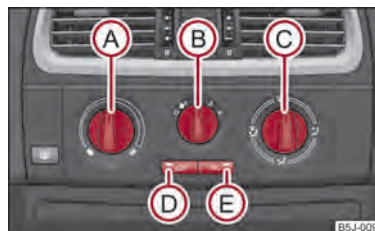

Fig. 79 The air conditioning system: Control elements
The air conditioning system operates when switch  ⇒ fig. 79  is pressed and the following conditions are met:
- Turn the control dial  ⇒ fig. 79 to the right in order to increase the temperature.
- Press the button   ⇒ fig. 79. The warning light lights up in the button.
- Controls Ⓐ, Ⓑ, Ⓒ and the buttons Ⓓ and Ⓔ ⇒ fig. 79.
- Press the button Ⓢ Ⓓ ⇒ fig. 79, the warning light lights up in the button.
The recirculated air mode is switched off automatically if the air distribution control (C) is in position (M) ⇒ fig. 79. You can also switch recirculated air mode on again from this setting by repeatedly pressing pushbutton (N).